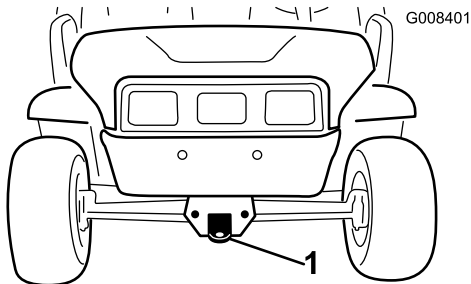
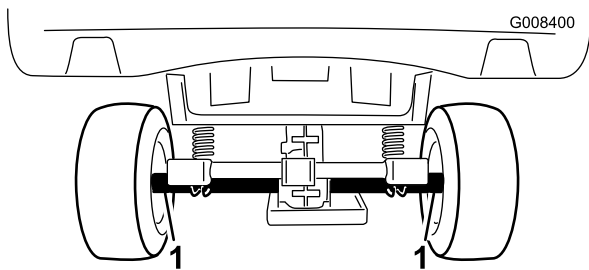

Figure 23
Figure 24
For moving the machine long distances, a trailer should be used. Make sure that the machine is secured to the trailer. Refer to Figure 23 and Figure 24 for the location of the tie-down points.
2. Affix a tow line to the tongue on the front of the frame (Figure 23).